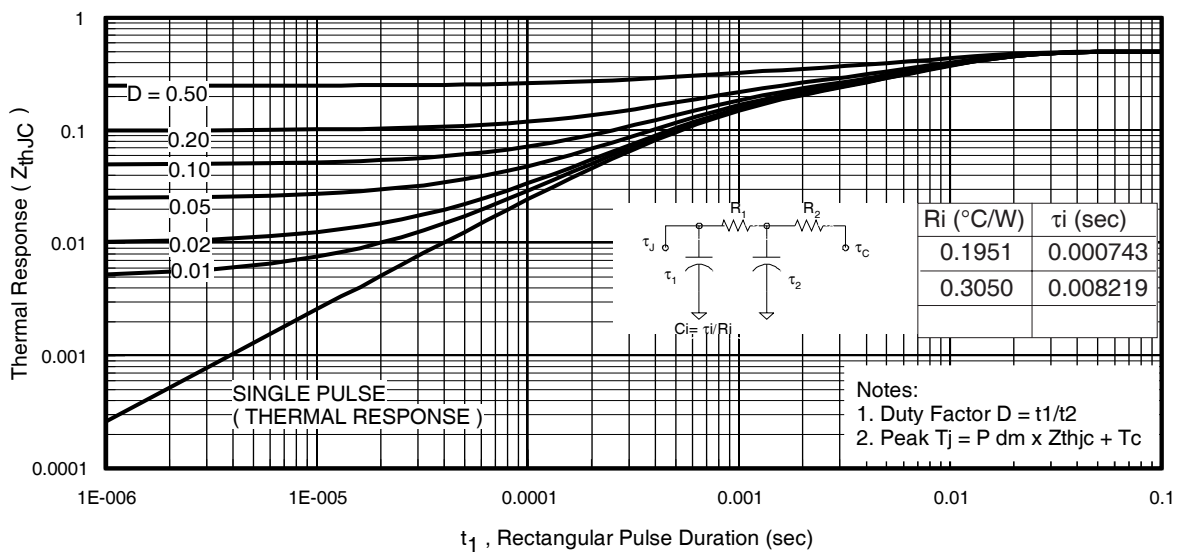

Fig 11. Maximum Effective Transient Thermal Impedance, Junction-to-Case
- ① Repetitive rating; pulse width limited by max. junction temperature. (See fig. 11).
- ② Limited by T_{Jmax} , starting $T_J = 25^\circ\text{C}$, $L = 0.049mH$, $R_G = 25\Omega$, $I_{AS} = 160A$, $V_{GS} = 10V$. Part not recommended for use above this value.
- ③ Pulse width $\leq 1.0ms$; duty cycle $\leq 2\%$.
- ④ $C_{oss\text{ eff.}}$ is a fixed capacitance that gives the same charging time as C_{oss} while V_{DS} is rising from 0 to 80% V_{DSS} .
$Z_{thJC}(D, t_{av})$ = Transient thermal resistance, see figure 11)